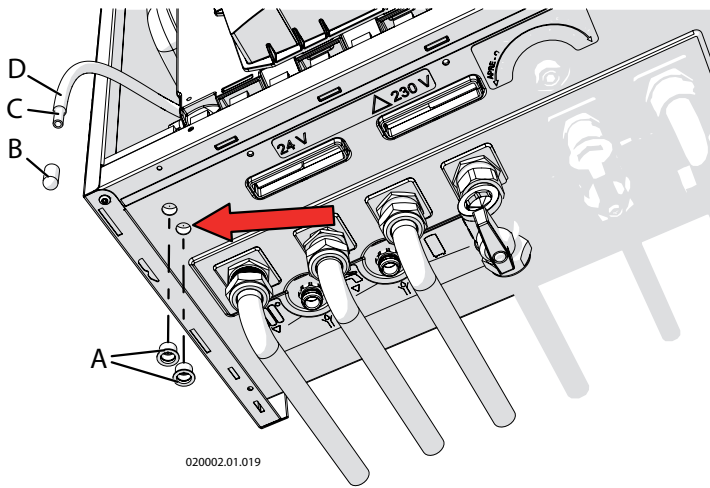

Figure 6.9 - Combustion agent air pressure point
- 4.- remove the caps "A" (see figure 6.9);
- 5.- take the flexible hose "D", which is found inside the appliance and remove the cap "B" (see figure 6.9);
- 6.- insert the pipe "D" inside the hole indicated by the arrow in figure 6.9;
At the end of the control, remove the tube "E", close the holes "A", close the pipe "D" using cap "B" and close the pressure point "H" again as in figures 6.9 and 6.10.